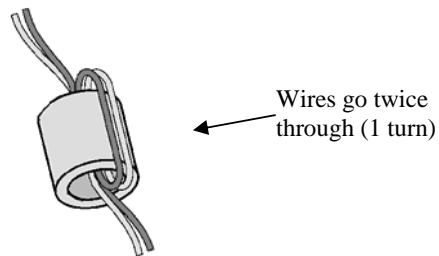

Figure 5-1. The Ferrite Bead
- Use supplied ferrite beads with all SPS field wiring including the Aux 24V. Loop wires twice through the supplied ferrite bead(s) as shown in Figure 5-1. (Extra can be ordered as 4100-5129 – 3 beads).